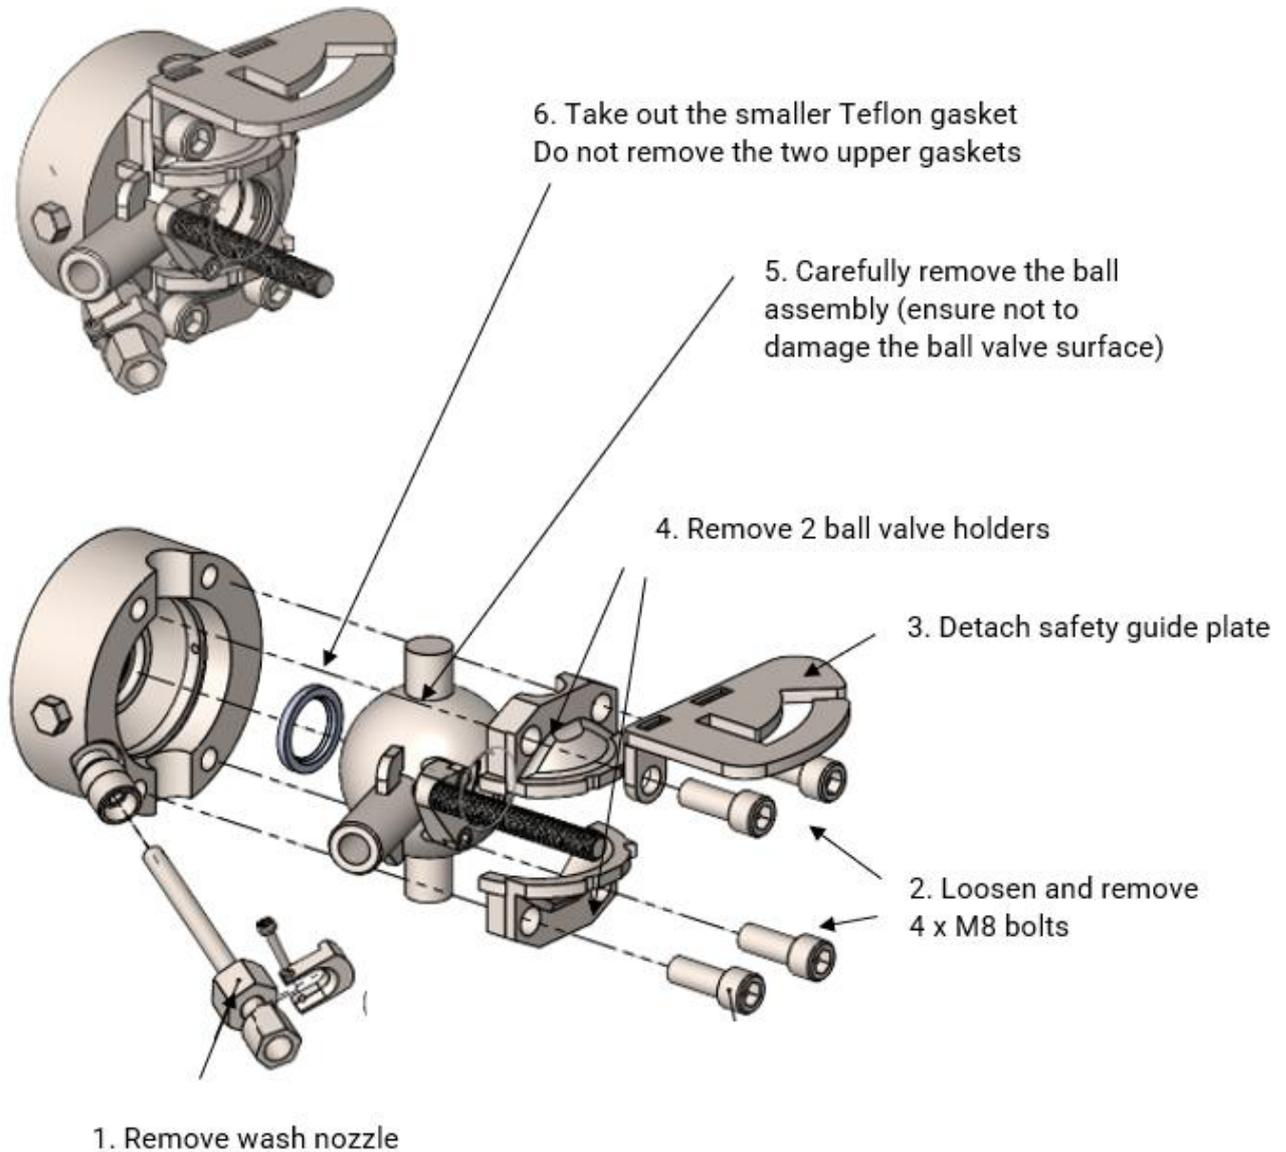

Figure 24 Disassembling the PASVE® valve components from the valve body (Drawing 10724).
**⚠ IMPORTANT:** To avoid thermal damage to the isolation valve sealing, the valve body must be separated from the valve assembly and the smaller gasket be removed before welding into the process pipeline (Fig. 24).